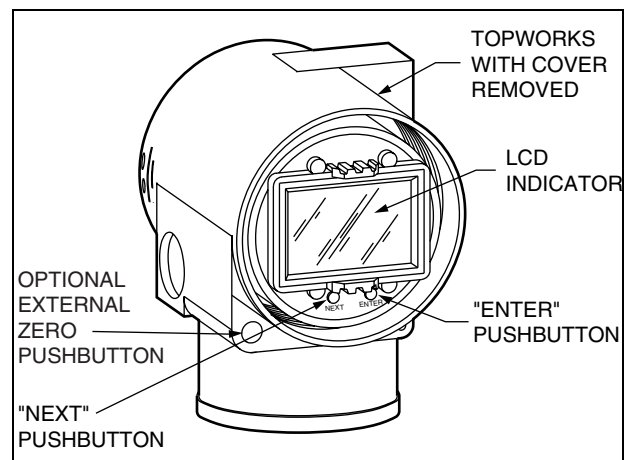

Figure 5. LCD Indicator with Pushbuttons
A pushbutton mechanism (Figure 5) is isolated from the electronics and magnetically activates a reed switch internal to the housing. This eliminates a potential leak path for moisture or contaminants to get into the electronics compartment. This zero adjustment can be disabled by a configuration selection.
Zero/span adjustments can be accomplished using the pushbuttons on the LCD Indicator (see Figure 5).
- ▶ The Optional Liquid Crystal Display (LCD) Indicator with On-Board Pushbuttons (Figure 5)